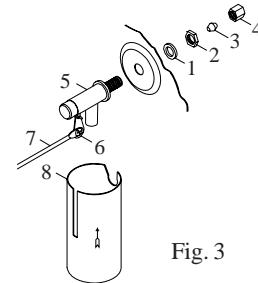

Fig. 3
- Install float valve and fill pan.** Refer to Fig. 3. Remove items 1, 2, 3, and 4. Insert float body (5) through hole in back post panel as shown. Install washer (1) and nut (2).